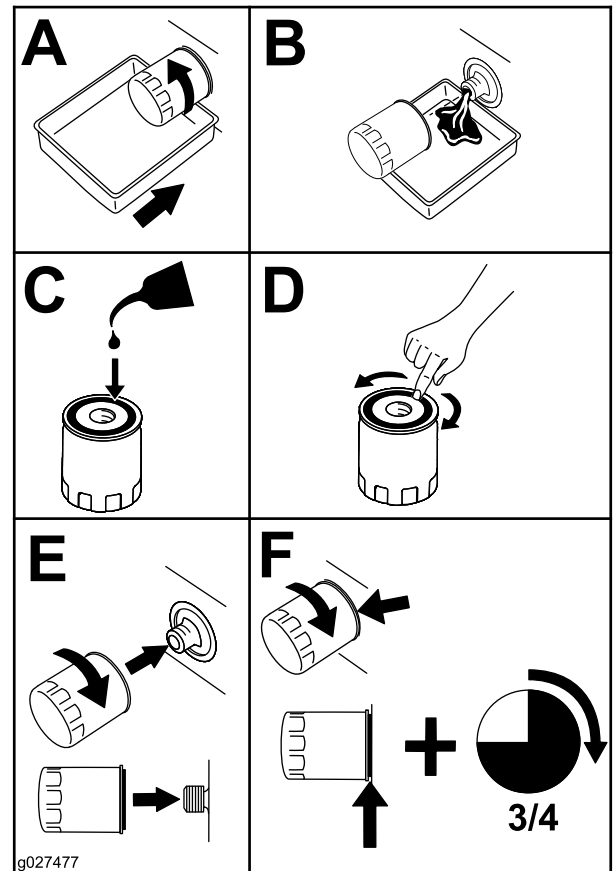

Figure 69
- Change the engine-oil filter (Figure 69).